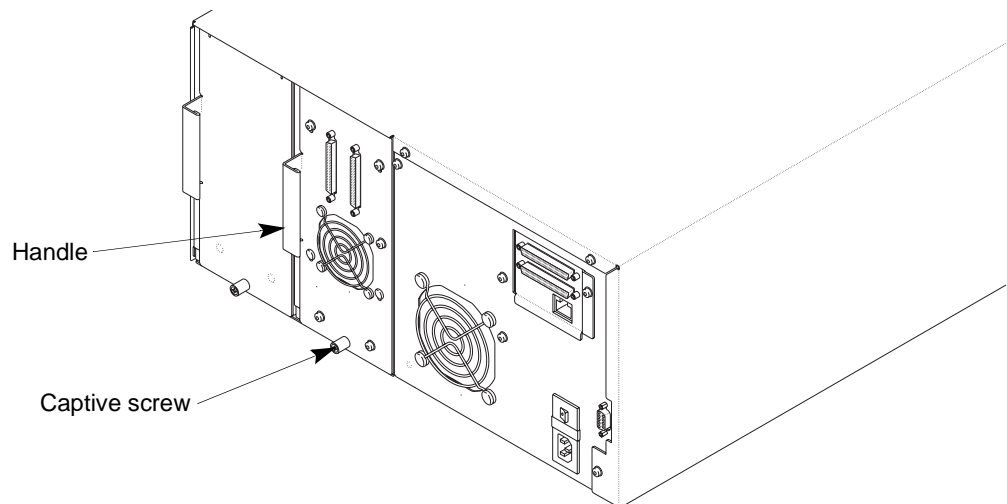

Figure 7-3 Location of captive screw and drive carrier handle
2. From the back panel, use a #2 Phillips screwdriver to release the captive screw that secures the tape drive carrier to the library (see Figure 7-3).